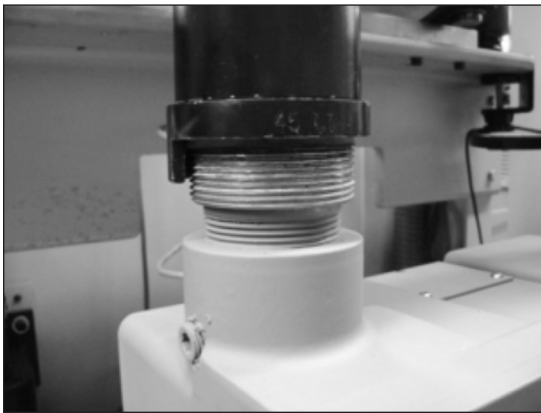

Figure 10.10 Example - SNAP connections properly fitted to meter
1. Install the meter on the prover table and adjust the meter arms to fit the appropriate height and width of the meter as shown in Figure 10.10 Example. On the Series III prover, extensions are required for the meter connections due to shorter height of the meter. Utilize the correct meter connections per what is installed on the meter. (Example: If you ordered 45LT connections on the meter use the 45LT swivels on the prover.)